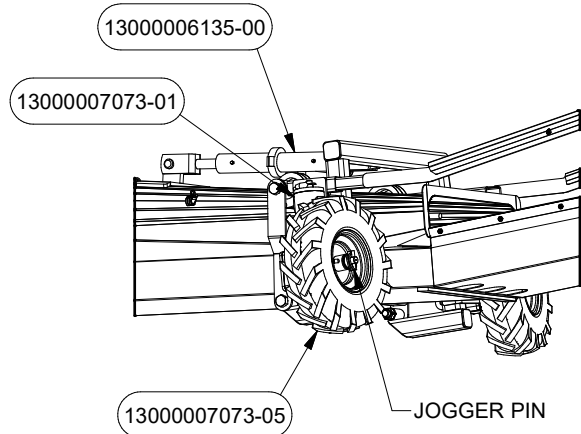

FIGURE 7
15. Assemble the Electric Motors PN# 7073-01 and the Tires PN# 7073-05 to the Axle and lock it using the Jogger Pins found in Mover Hardware Box PN# 7073 (see Figure 7).